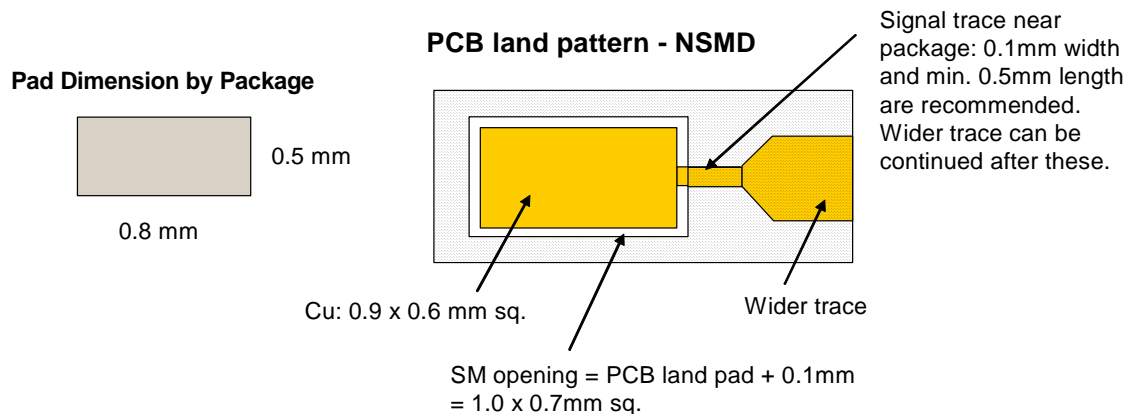
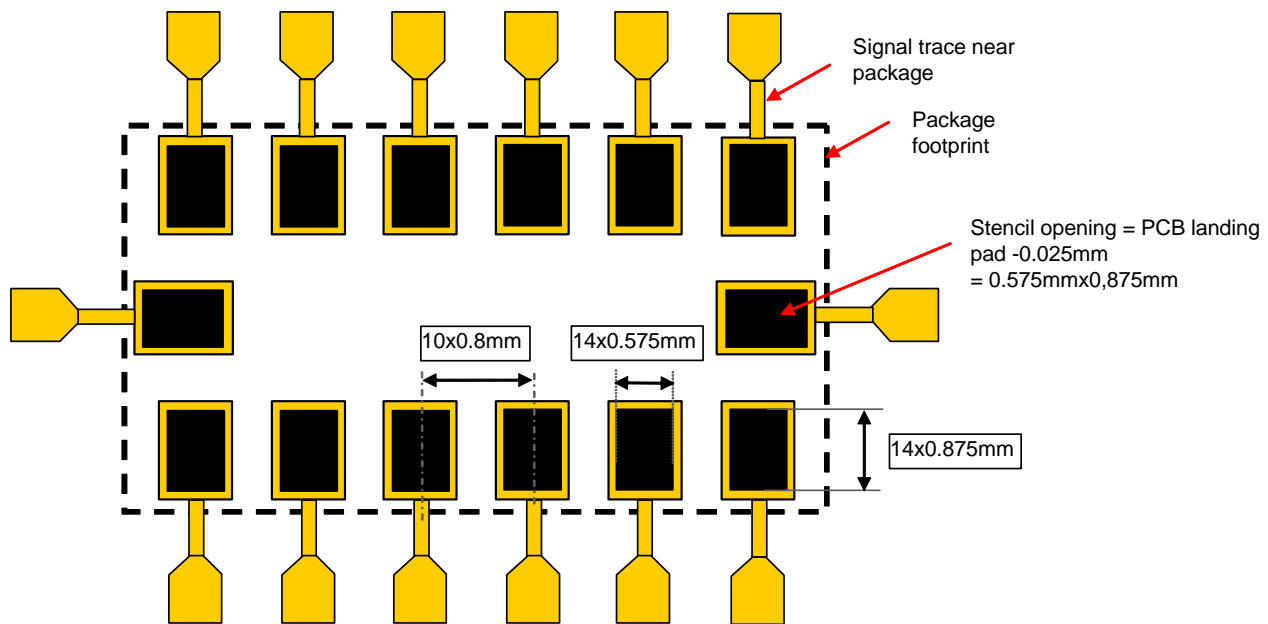

Figure 21. Recommended PCB Land Pad, Solder Mask, and Signal Trace Near Package Design
Figure 22. Stencil Design Guidelines
1. The PCB land should be designed with Non Solder Mask Defined (NSMD) as shown in Figure 21.
3. PCB land pad is 0.9 mm x 0.6 mm which is the size of the package pad plus 0.1 mm as shown in Figure 21.
4. The solder mask opening is equal to the size of the PCB land pad plus an extra 0.1 mm as shown in Figure 21.
7. Signal traces connected to pads should be as symmetric as possible. Put dummy traces on NC pads in order to have same length of exposed trace for all pads. Signal traces with 0.1 mm width and min. 0.5 mm length for all PCB land pads near the package are recommended as shown in Figure 21 and Figure 22. Wider trace can be continued after the 0.5 mm zone.